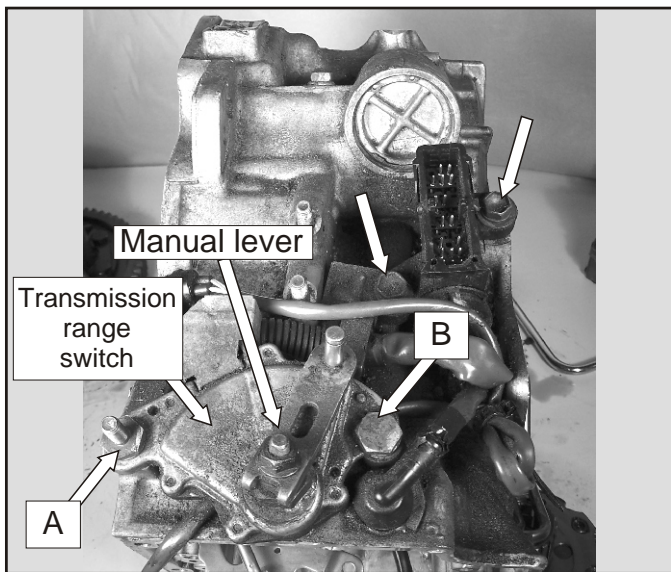

Figure 90
39. Remove the 13mm headed nut retaining the manual lever and remove the lever. Remove the two 17mm headed transmission range switch to case retaining bolts. **Note: the bolt lengths are as follows, A = 21mm long and B = 32mm long.** Remove the two 14mm headed connector retaining bolts. **Note : the bolt lengths are 20 mm long.** See Figure 90.